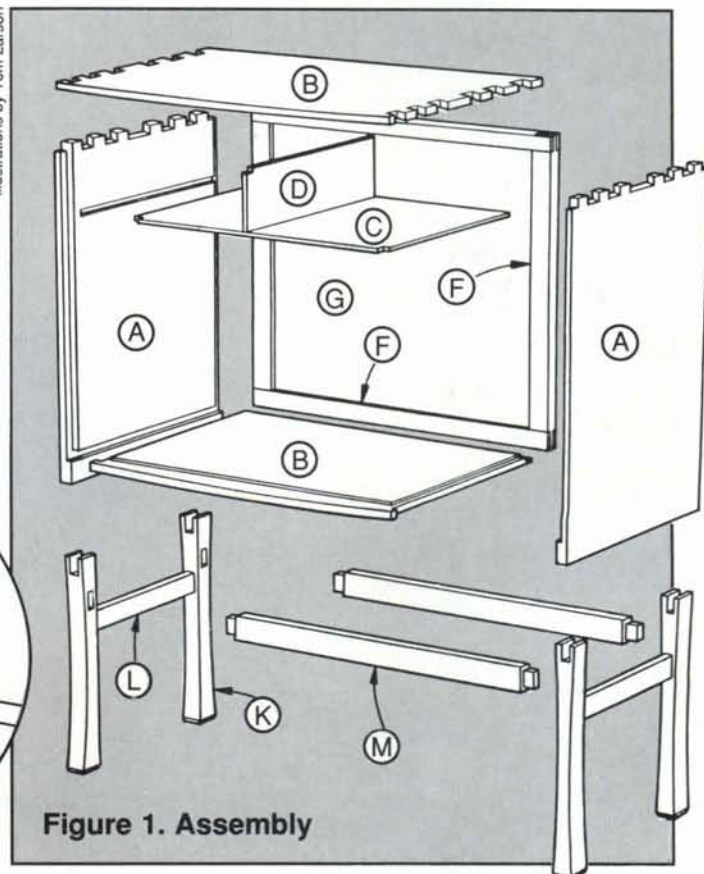

Figure 1. Assembly
Next cut the rabbets for the back and for the doors (see Figure 1 and Figure 2). Notice that they are different in size and that they are blind, running from the top to the dado you've just cut as shown in the detail below. Therefore, you will have to cut them with a router. Cut a 3/8" X 3/8" rabbet on the front edges of the sides, and a 1/2" wide, 3/8" deep rabbet on the back edges. The 3/8" dado for the drawer shelf (C) is also blind and will have to be routed. Stop it about 1/2" from the front rabbet. Be sure that this cut is in exactly the same position on both side panels. If it's even a little bit off, the drawer pocket won't be square and the drawers won't fit properly. The best way to be sure is to cut one side, then place the two pieces back edge to back edge, flush at the bottom, and with a sharp knife, mark the uncut panel. (Never mark anything important with a pencil;
Detail of Figure 1
The drawer shelf (C) and divider (D) come next. Resaw the necessary pieces to finish 3/8" thick. Glue them up as one panel long enough for both pieces. The grain should run across the cabinet. A thin panel like this will require extra sets of clamps and supports. I put wax paper between the supports and the panel. Just tighten the support clamps lightly. When the glue has dried, clean and smooth the joints, and cut the shelf to size. The shelf should have a sliding fit in its dado. Notch the front corners (3/8" X 1/2") so that the shelf will come forward flush with the door rabbet (see Figure 1). With the case dry assembled (and squared up), and the shelf in place, transfer the position of one edge of the divider dado in the top (B) to the shelf using a try square. Rout this 3/8" dado the same length as the one in the top, but only 1/8" deep. With the shelf in place, measure the width and length of the divider (D), cut it to size, and notch its front corners so that it will come flush with the front edge of the shelf.